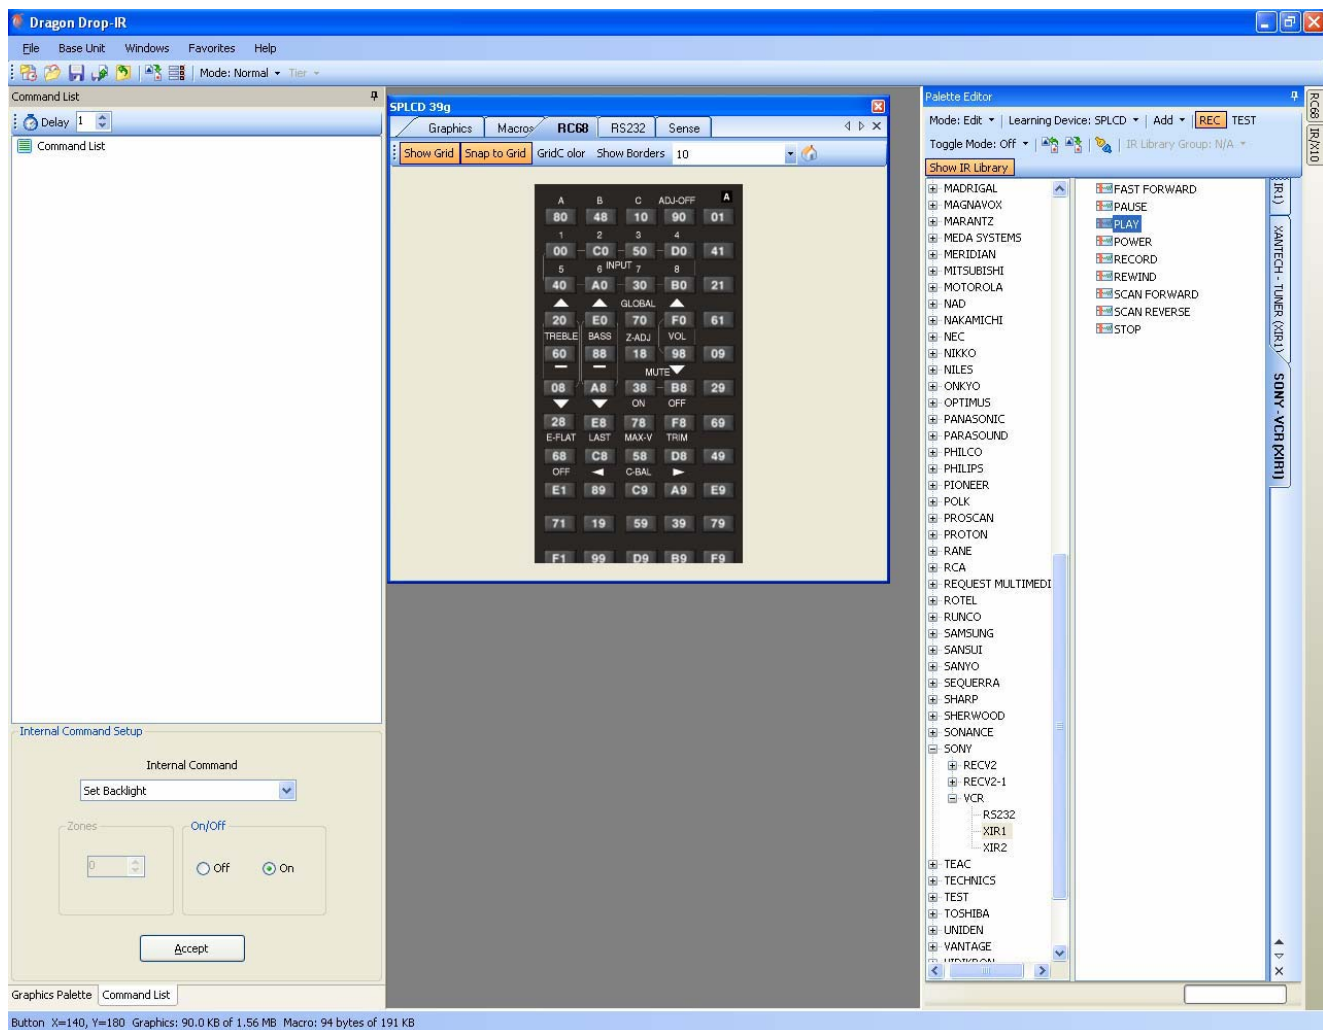

Figure 27 –RC68 IR Code Triggered Sequencer
Right-clicking on a command placed in the Macro Command List window will bring up a pop-up menu allowing an individual command to be deleted, routed to a specific Zone emitter output or to a Source emitter output (see **Figure 27** above). Each of the functions available are described below.
1. Select an ASCII COMMAND string in the RS232 window numbered Command !MC000+ to Command !MC127+. It will be highlighted in a blue background. (See **Figure 27.**)